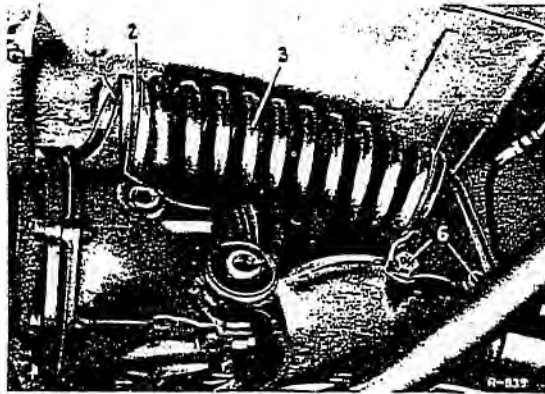

Fig.32-7/1
2. Insert Spring Tensioner 111 589 00 31 (Fig. 32-7/2) and compress the compensating spring (3) until there is no pressure on the bracket (5) on the right axle tube (Fig. 32-7/1).